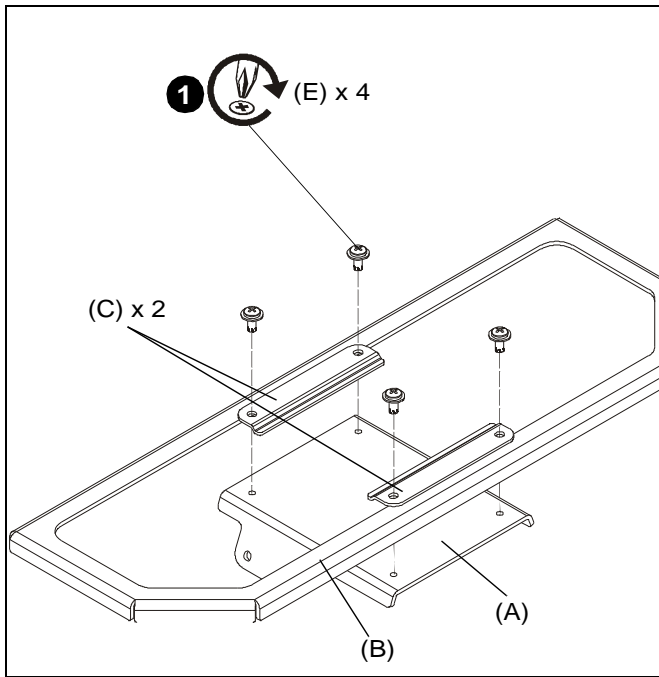

Figure 1
1. Use four #10-24 x 7/16" Phillips screws with captured washers (E) and two guard clamps (C) to secure guard bracket (B) to guard base (A). (See Figure 1)